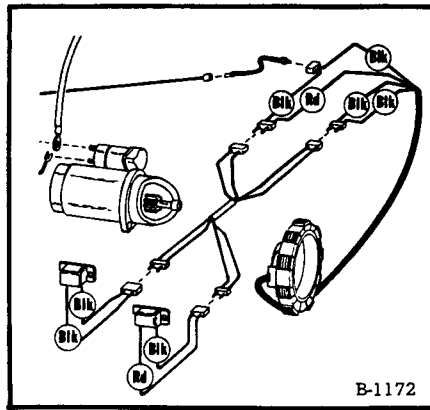

Fig. 46 Wiring Diagram
- (4) Use a jumper harness (Fig. 46, Item 1) to connect the stator leads to the rectifier and regulator modules. The fool-proof type connectors prevent incorrect wiring.